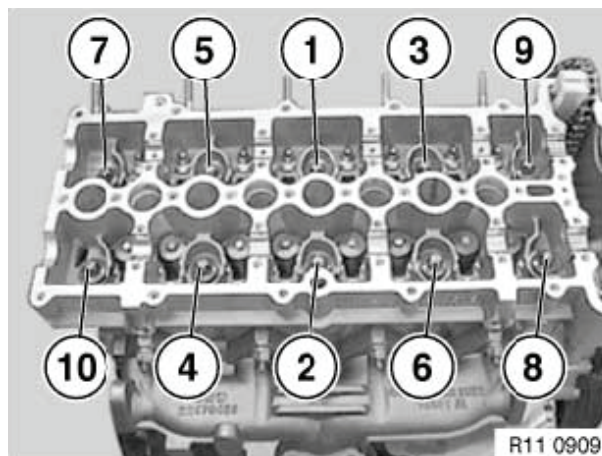

Figure 5-16
21. **4BY Engines:** Remove cylinder head bolts in reverse sequence, beginning with number 10 (**Figure 5-16**).